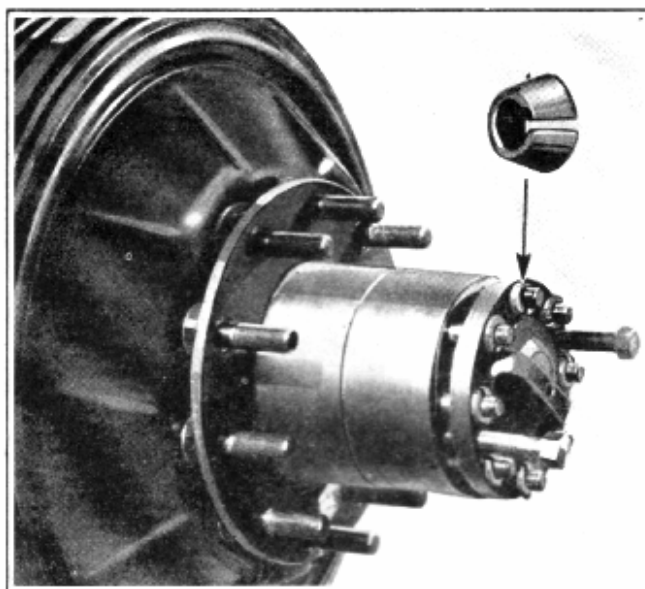

Fig. 2—Removing Axle Shaft
2. Install two $7/16"$ x $14"$ cap screws in the threaded holes provided in the axle shaft flange. Turning these cap screws alternately, the axle shaft may easily be removed. Remove the axle shaft and aluminum gasket, Fig. 2.